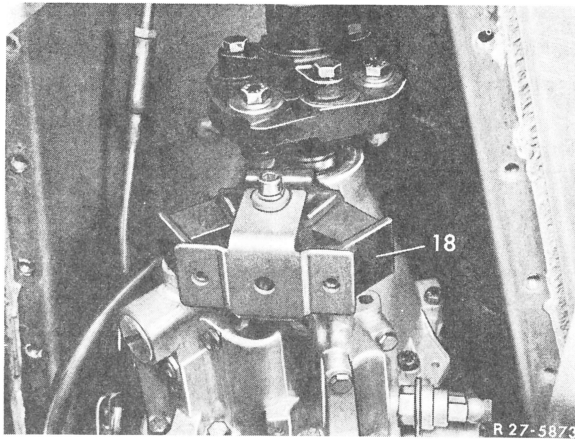

Fig. 6
11 Unscrew rear engine mounting (18) on transmission (Fig. 6).
43 Screw rear engine mounting (18) to transmission (Fig. 6).